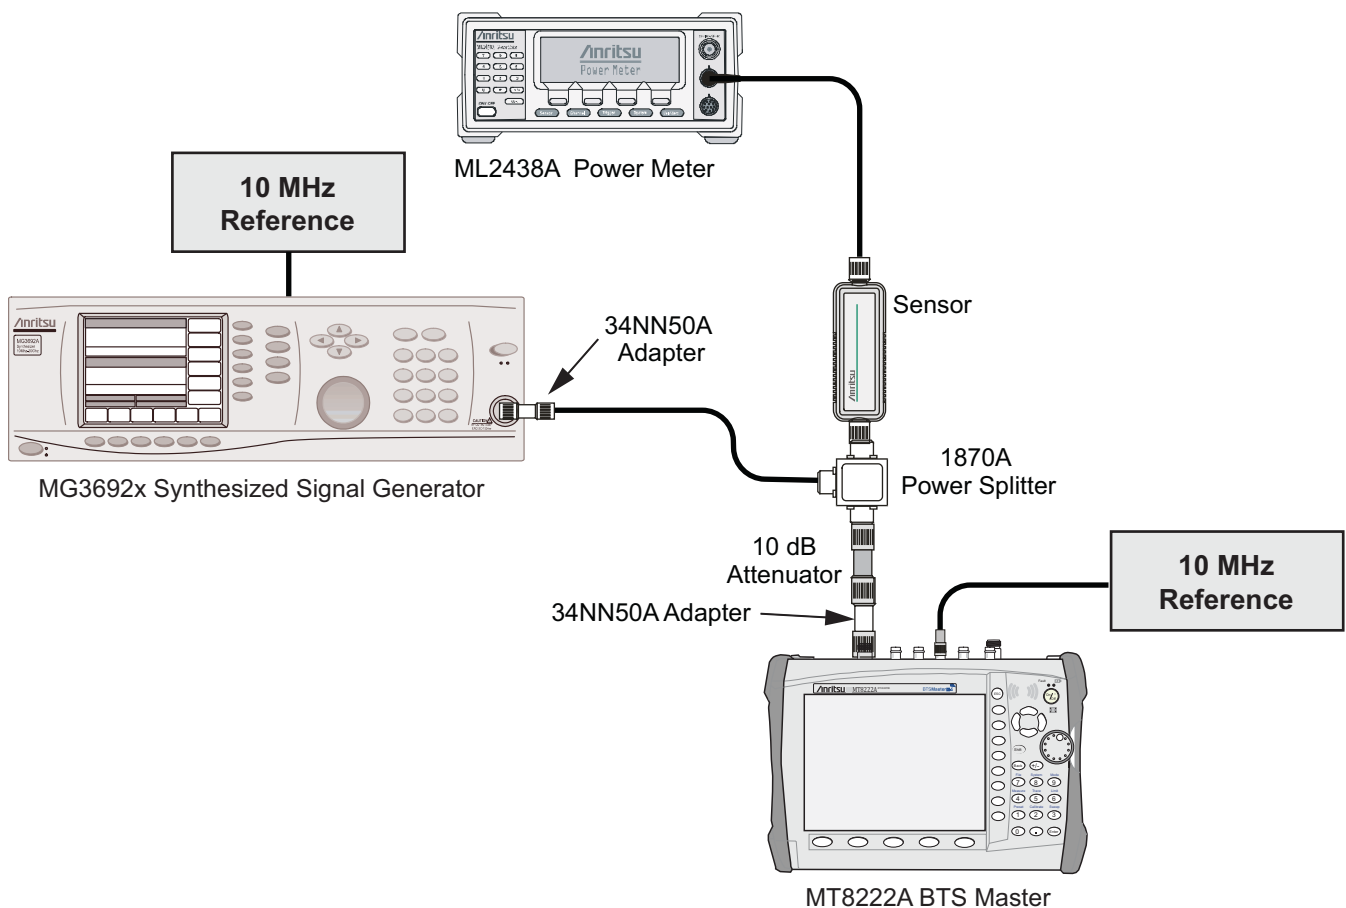

Figure 5-20. LTE Signal Analyzer Option Verification
4. Connect the Power Sensor, 1870A splitter, 10 dB attenuators (quantity 2), as shown in Figure 5-20, “LTE Signal Analyzer Option Verification”.
4. Connect the Power Sensor, 1870A splitter, 10 dB attenuators (quantity 2), as shown in Figure 5-20.